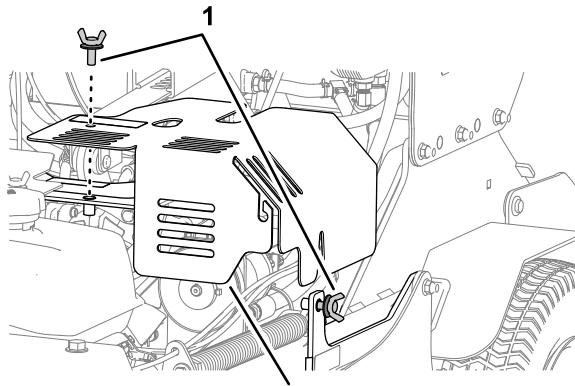

Figure 50
2. Remove the top thumbscrew, loosen the side thumbscrew, and remove the left hydraulic compartment cover (Figure 50).
5. Align the hole and slot in the left hydraulic compartment cover with the supports of the machine and secure the cover with the 2 thumbscrews (Figure 50).